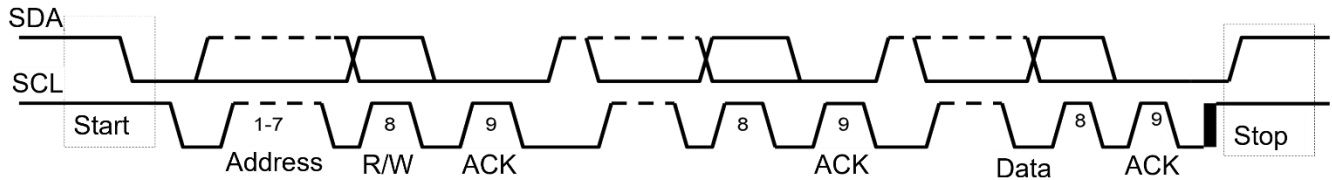

Figure 9: Complete Data Transfer
represents a write transmission (W), while a 1 indicates a read request (R). Figure 9 shows a complete data transfer.